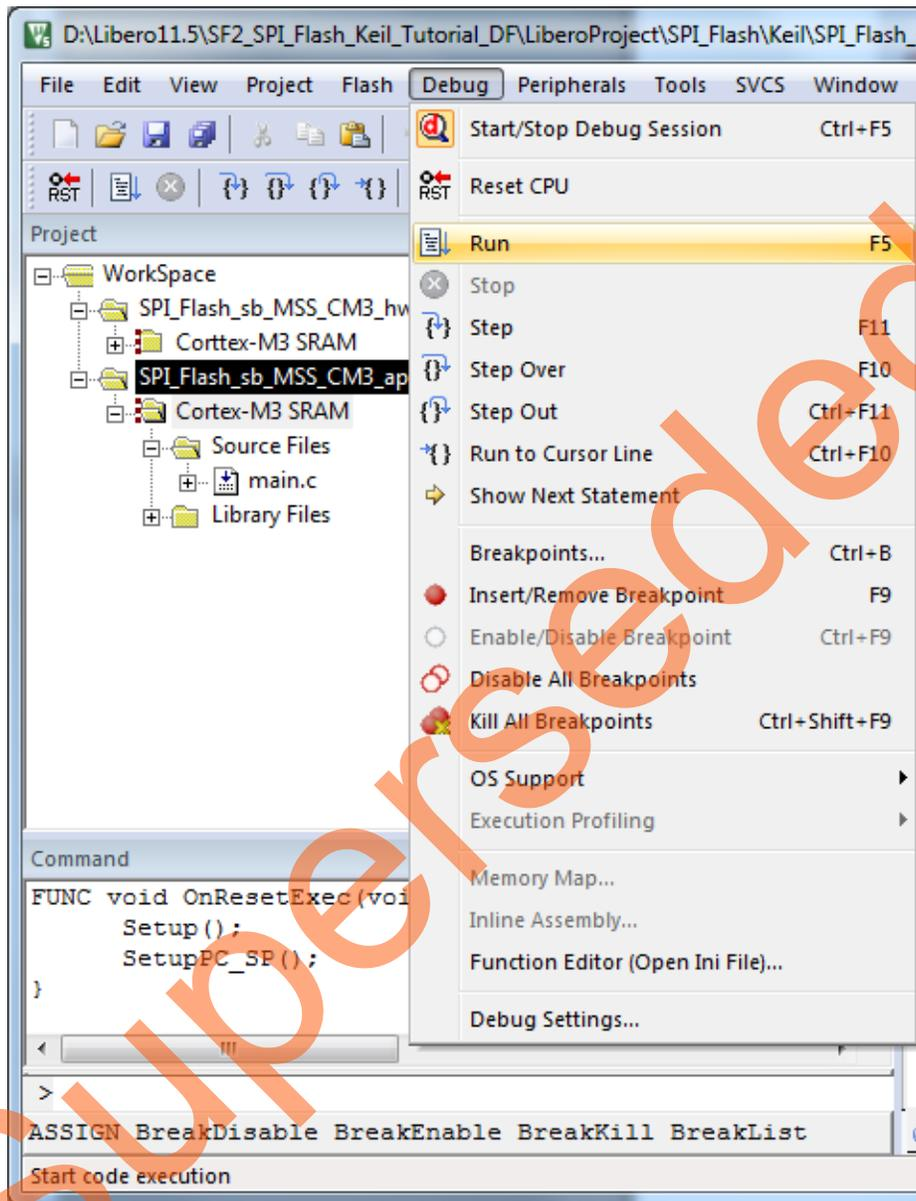

Figure 38 • Selecting Run from the Debug Menu
2. Click **Run** from the **Debug** menu as shown in Figure 38.